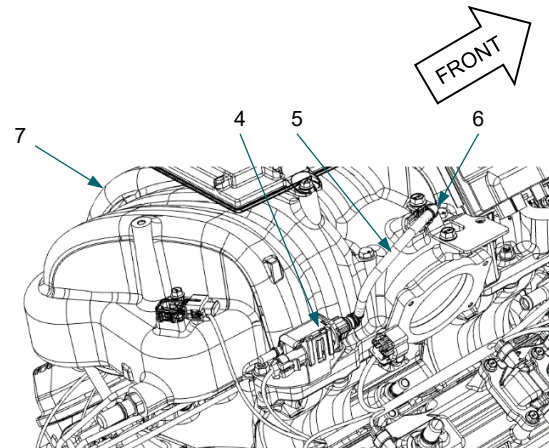

Figure 2: EVAP purge solenoid (4), intake mounted EVAP purge line (5), EVAP purge line fitting (6), intake manifold (7).
1. Remove intake mounted EVAP purge line (5) from EVAP purge solenoid (4) and from purge line fitting (6) on intake manifold (7). *Figure 2*
1. Remove engine to EVAP module PCV line (*not shown*) from PCV valve (10) on passenger side valve cover and PCV line fitting (9) on rear of intake manifold (7). *Figure 2*